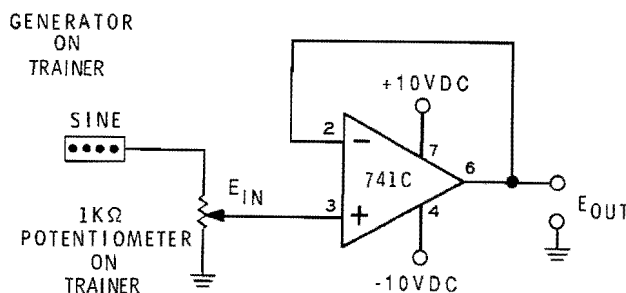

Figure 3-62
45. Turn off the Trainer and construct the circuit shown in Figure 3-62. Set the generator frequency to 1 kilohertz.
The circuit shown in Figure 3-62 is the voltage follower. You verified that it has a gain of 1 and, therefore,  $E_{OUT}$  is always the same as  $E_{IN}$ .